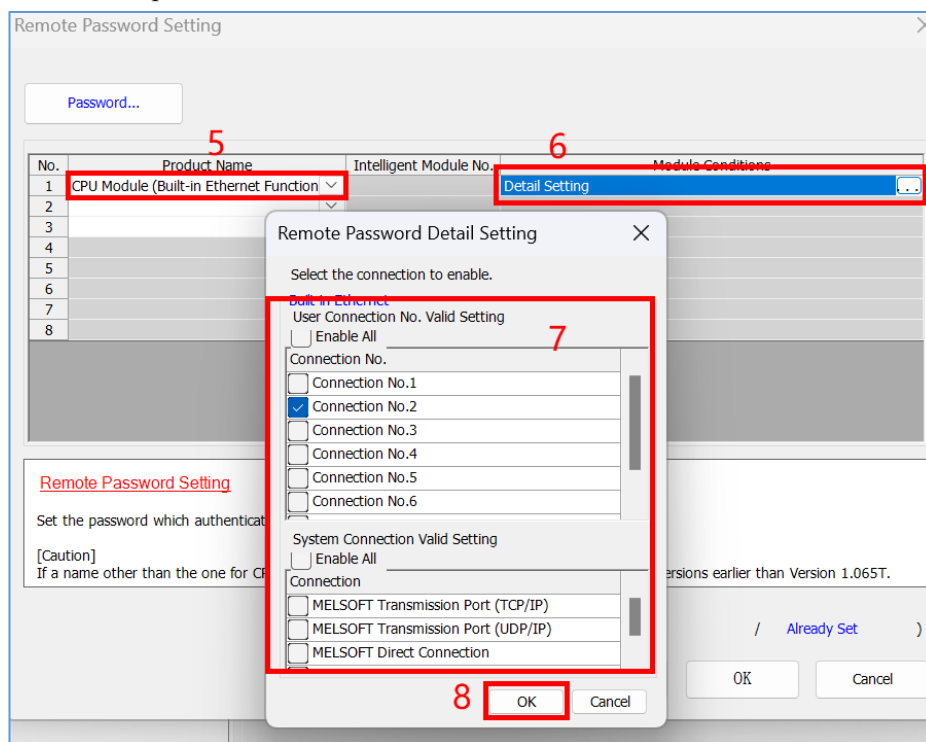

Figure 7
- (5) Set the product name and select "CPU module (Built-in Ethernet function)";
- (6) Double click "Detailed Setting" or click "..." button to set the remote password in detail;
- (7) As shown in Figure 7, configure the "User Connection No. valid setting" and "system Connection valid setting" (you can check which connection number to use the remote password as